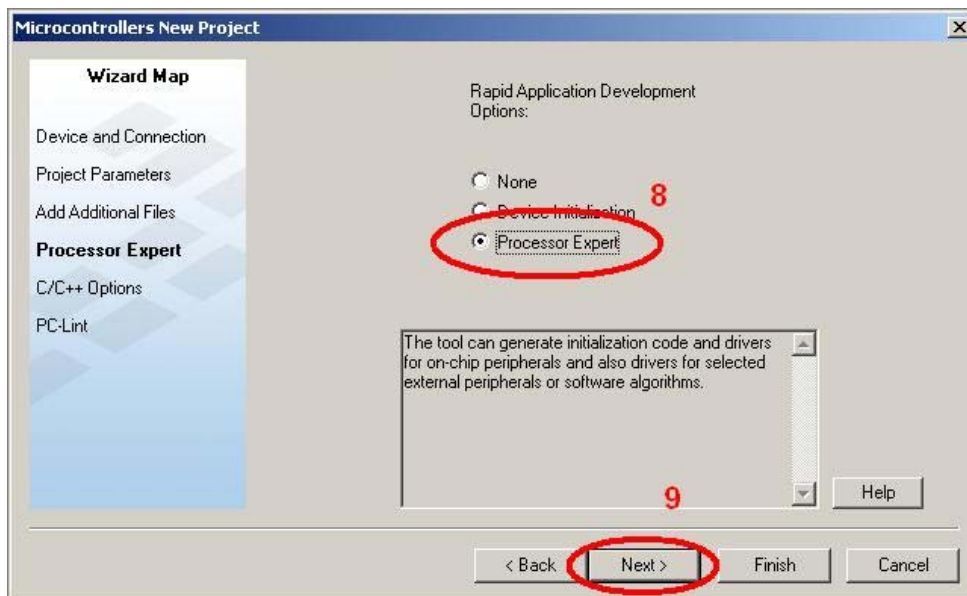

Figure 5. Microcontroller new project dialog
8. In the Processor Expert window, select the Processor Expert option. See step 8 in Figure 5.
9. Click Next. See step 9 in Figure 5.